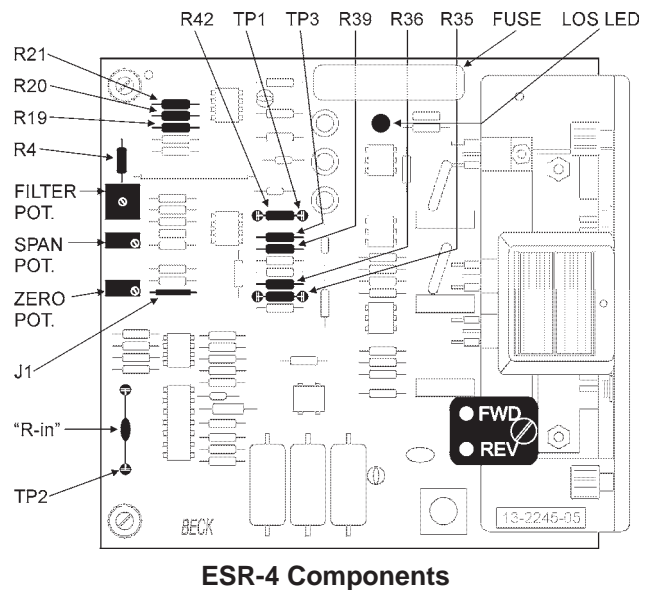

Figure 5
Span and zero adjustments are located near the edge of the ESR-4 board (see Figure 5, page 32). Monitor the "FWD" and "REV" lamps to make adjustments. When the drive is balanced (with Handswitch in "AUTO" and not at an end-of-travel limit) or in L.O.S. mode, both lamps are on. When the output shaft is moving, the lamp designating its direction of travel goes out. When the drive reaches its end of travel before balance is achieved, the lamp will stay out. Trim the adjustment so that the drive just reaches the limit switch and the motor does not run. Clockwise rotation of either span or zero adjustment causes the output shaft to drive toward the zero (minimum input signal) position.
4. Short out resistor R35 temporarily with a clip lead (see Figure 5, this page, for location). Board has conformal coating. Take extra care to ensure proper connection. NOTE: Drive will run in CW direction.
The basic span adjustment of the ESR-4 is 2–6 volts dc. This is adjustable with the 20-turn span potentiometer. To make the span adjustable from 2–9 volts dc, remove resistor R4. To make the span adjustable from 9–12 volts dc, remove jumper wire J1. To make the span adjustable from 12–16 V dc remove R4 and J1. See Figure 5, below, for location of R4 and J1.
The basic zero adjustment is -20% to 100% of span. This is adjustable with the zero potentiometer. For 2-way split range applications, remove resistor R35 to shift the zero adjustment to 20% to 150% of span. For 3-way split range operation, remove resistors R35 and R36 to shift the zero adjustment to 150% to 275%. For other split range applications, consult factory for adjustment. See Figure 5, below, for location of R35 and R36.
The input filter is adjusted at the factory for maximum attenuation of disturbances on the input signal (fully CW). This introduces a 1% drift (with 60 second timing) in response to a loss of input signal when “stay-in-place” is selected. If this is objectionable or if livelier response is desired, the filter action can be reduced by turning the filter adjustment potentiometer CCW a sufficient amount. Fully CCW takes the filtering out completely but in some cases may lead to undesirable cycling. If this happens, turn the adjustment CW until the cycling is damped out. See Figure 5, page 32 for location.
If it is not possible to eliminate the excessive noise, the drive’s deadband can be widened; however, this will reduce the resolution of the drive. Widening the deadband to 1% can be accomplished by removing resistor R39. Further change of the deadband is possible by changing the value of R42 (only after R39 is removed). Various values and corresponding deadbands are listed below. See Figure 5, page 32, for the location of R39 and R42.
For input signal calibration, follow the calibration procedure beginning on page 31. Component locations are the same as shown in Figure 5, page 32.